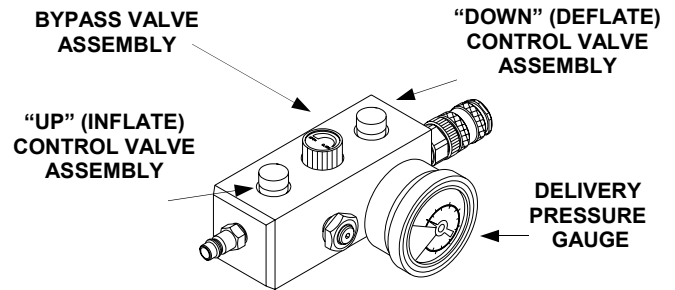

Figure 1-7. Single Push-button Safety Relief and Control Valve with Bypass
c. The single safety relief and control valve with bypass (figure 1-7) is a single input/single output controller incorporating quick disconnect hose fittings and single push-button controls to apply and release air pressure to a single lift bag. One gauge is provided to monitor the air pressure applied to the lift bag(s) and a 118 psi (8.1 Bar) relief valve is incorporated to limit the applied air pressure. Inflation and deflation is accomplished by depressing the associated valve spring loaded push-button. The bypass, located between the inflation and deflation valves, is used to “bypass” the inflation valve. This allows a continuous flow of air supply to a lift bag without having the operator manually keep the inflation valve open by constantly depressing the inflation valve. The use of the bypass compensates for any pressure drop inside of the lift bag that can be caused by a shifting load, undetected air leaks, etc... It is activated by turning the bypass knob counter-clockwise.